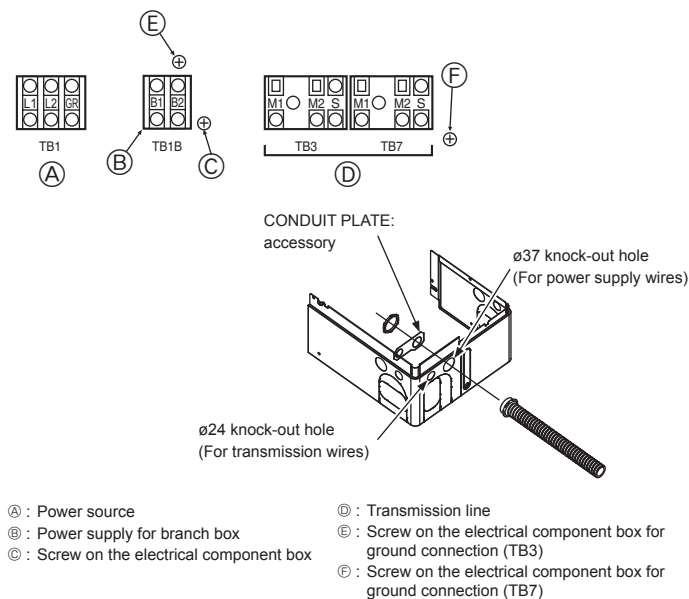

Fig. 6-1
- ⑨ Before turning outdoor unit on, be sure to turn the indoor units and the branch boxes.
6.2. Control box and connecting position of wiring (Fig. 6-1)